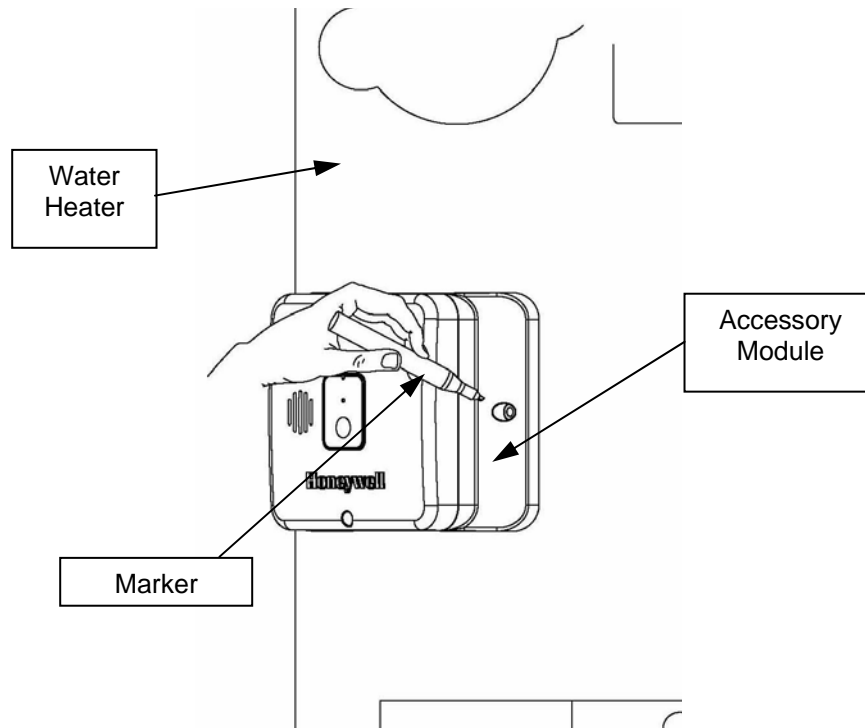

Figure 5
Step 5: Using a marker, mark the location of the Accessory Module screw holes. This is shown in Figure 5.